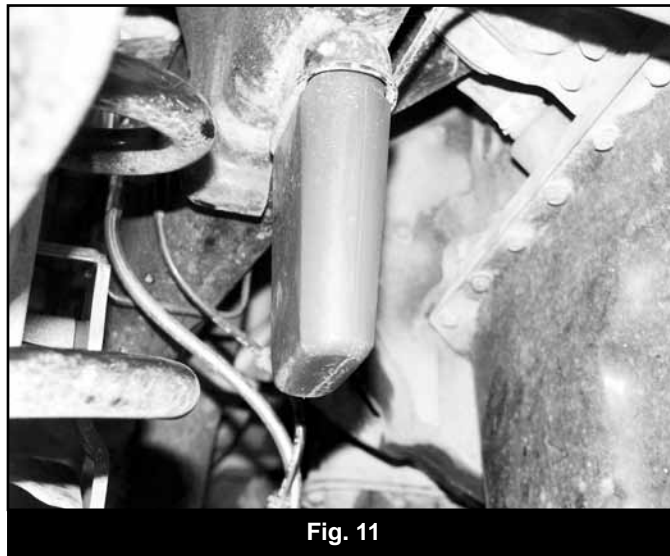

Fig. 11
34. Install the new extended bump stops in the original frame mounts. Grease the mounting surfaces to ease installation. (Fig. 11)